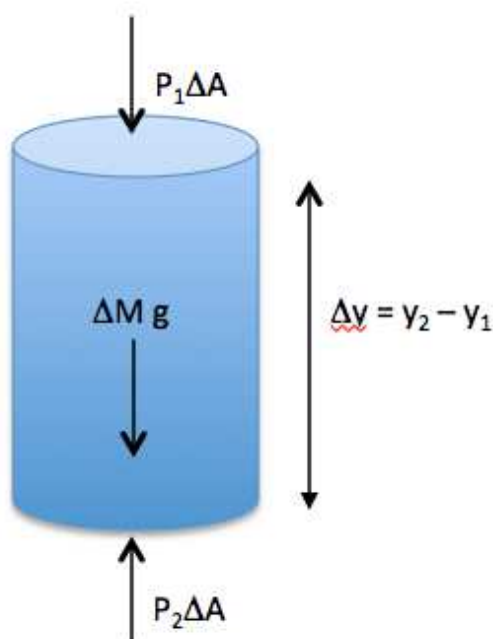

Fig. 2.— An arbitrary fluid element at rest feels forces perpendicular to its surface.
(2) We can conclude that *the surface of a fluid in a uniform gravitational field must be horizontal.*
(3) Consider now a fluid in uniform gravitational field. How does the pressure varies with depth ? Equating the forces on a fluid element (see Figure 2), we find $P_2 \Delta A - P_1 \Delta A - (\Delta M)g = 0$. For a *homogeneous* fluid, $\Delta M = \rho \Delta V = \rho \Delta A \Delta y$. We can thus write